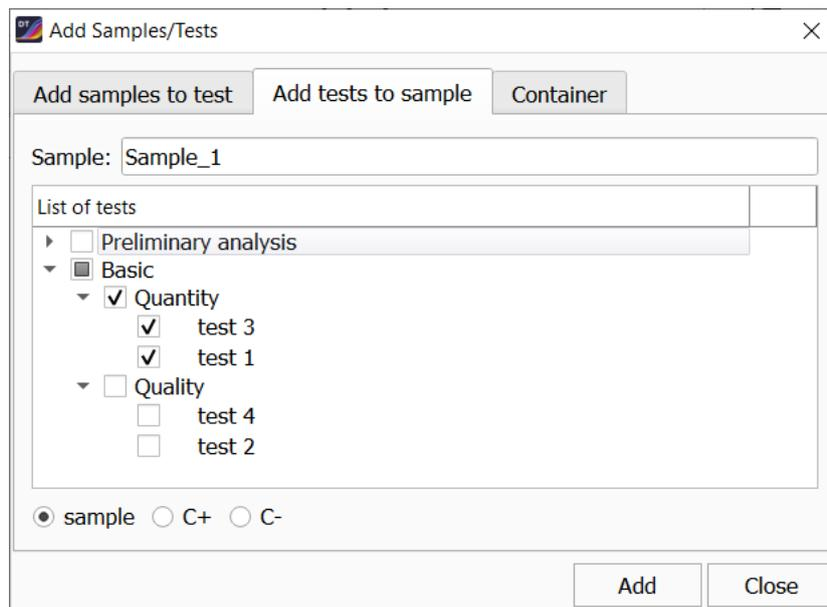

Figure 26 – Selecting tests in the **Add tests to sample** tab
5. Select type: sample, C+, C- (fig. 26).